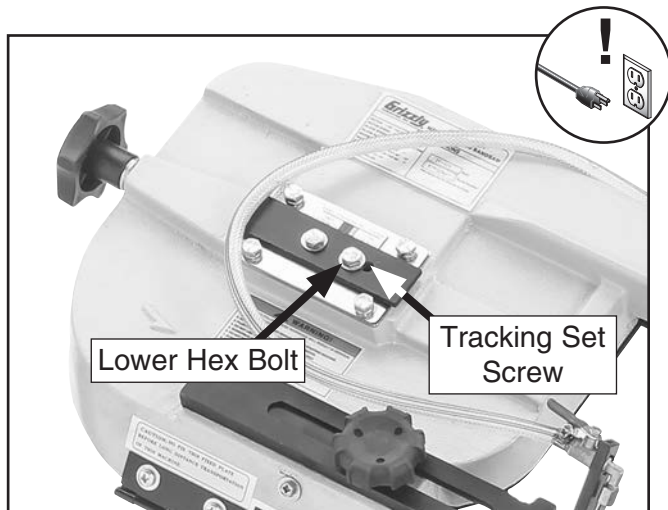

Figure 70. Location of lower hex bolt.
4. Loosen, but do not remove lower hex bolt in blade wheel tilting mechanism (see **Figure 70**).
6. Adjust tracking set screw (see **Figure 70**), then tighten hex bolt loosened in **Step 4**.